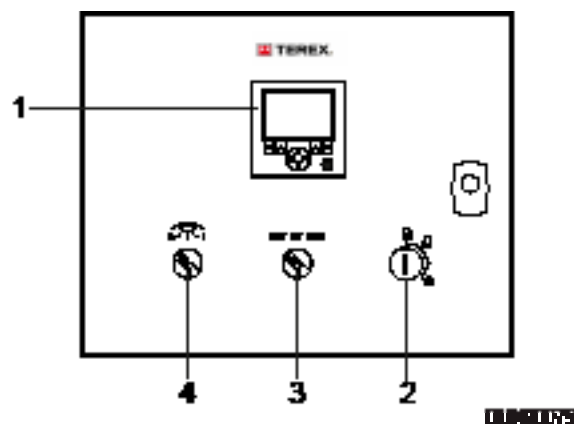

Figure 7.43 - MCU 300 Control Panel
3. Switch the engine speed switch (Item 3) to low, Reference: Figure 7.43.
5. Turn the ignition key (Item 2) to the off position to stop the engine and remove the key, Reference: Figure 7.43.